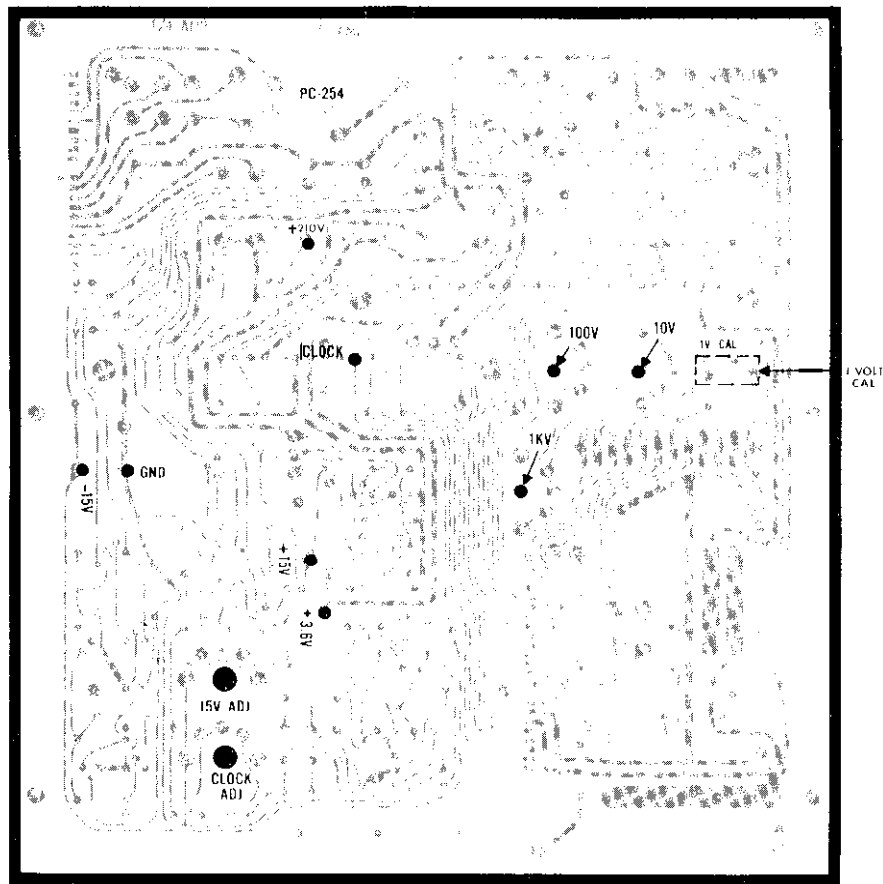

FIGURE 16. Calibration Controls.
2. Power Supply Checkout. All the power supply voltages can be measured at test points on printed circuit board PC-254 as shown in Figure 16.
1. Power Supply. The +15V supply should be adjusted for +15.00V dc  $\pm 0.050V$  using potentiometer R209 on PC-254 as shown in Figure 16. The -15V and +3.6V supplies cannot be adjusted since the +15V supply is used as a reference voltage.
2. Clock Frequency. Measure the clock frequency at the "CLOCK" test point on PC-254 as shown in Figure 16. The frequency should be adjusted for a nominal 10 kHz,  $\pm 20$  Hz using potentiometer R605 on PC-254 as shown in Figure 16.
3. Zero Adjust. Place a shorting wire across the Input Terminals (red and black). Connect voltmeter (A) to the analog OUTPUT (J103). Adjust the rear-panel ZERO Control (R505) for zero on the 1 mV range.
5. DC Balance. With voltmeter (A) connected to the OUTPUT adjust the OFFSET CURRENT ADJ Control (R733) for zero on the 1V range. The OUTPUT should be adjusted within  $\pm 1$  millivolt on the 1mV range and within  $\pm 0.1$  millivolt on the 1V range. Repeat the adjustments of R505 and R733 until the OUTPUT is within tolerance on both the 1 mV and 1V ranges simultaneously.